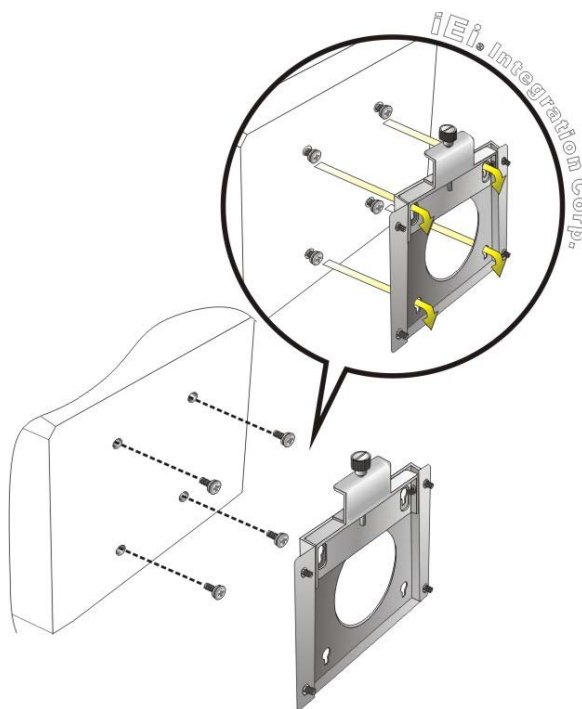

Figure 3-22: Chassis Support Screws
Step 6: Insert the four monitor mounting screws provided in the wall mount kit into the four screw holes on the rear panel of the flat bezel panel PC and tighten until the screw shank is secured against the rear panel (**Figure 3-22**).
Step 8: Carefully insert the screws through the holes and gently pull the monitor downwards until the monitor rests securely in the slotted holes (**Figure 3-22**). Ensure that all four of the mounting screws fit snugly into their respective slotted holes.